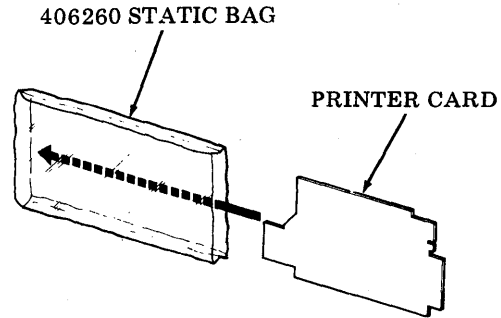

Fig. 7—Circuit Card Protective Bag
4.01 The 410071, 410072, 410076, 410640 and 410729 printer circuit cards contain MOS logic which requires careful handling. If the printer card is not already installed in the unit it should be handled while stored in its protective 406260 static bag (Fig. 7).